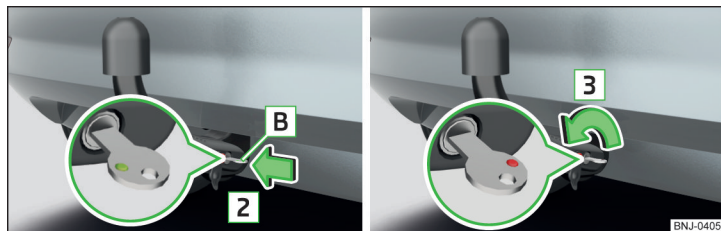

Fig. 240 Insert the key into the lock / unlock the lock
- Insert the key **B** into the lock in the direction of arrow **2**, so that its green marker points upward » Fig. 240.